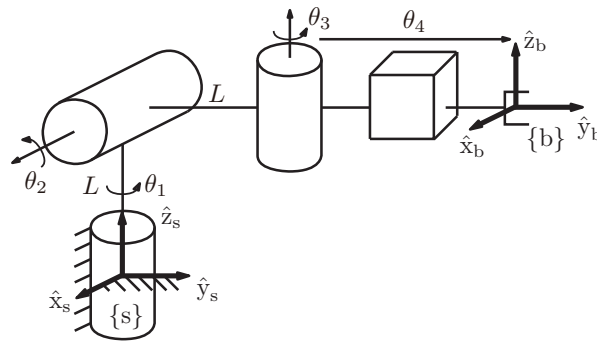

Figure 1: An RRRP spatial open-chain manipulator. The length of the first two links is  $L$ .
- (2/10) The RRRP robot of Figure 1 is shown in its zero position ( $\boldsymbol{\theta} = \mathbf{0}$ ). Using the fact that columns of the Jacobian is equivalent to the screw axis of the joints when the robot is in an arbitrary configuration, determine the space Jacobian  $\mathbf{J}_s(\boldsymbol{\theta})$  and the body Jacobian  $\mathbf{J}_b(\boldsymbol{\theta})$  when  $\theta_1 = \theta_2 = 0, \theta_3 = \pi/2, \theta_4 = L$ . Then, using your results, verify your functions `J_SpaceForm` and `J_BodyForm` written in Parts (a) and (b) when  $L = 0.5$  m.
3. (1/10) For the RRRP robot of Figure 1, let  $\mathbf{p}$  be the coordinates of the origin of  $\{b\}$  expressed in  $\{s\}$ . Using your results in Problem 1.(c), find  $\dot{\mathbf{p}}$  when  $\theta_1 = \theta_2 = 0, \theta_3 = \pi/2, \theta_4 = L$  and  $\dot{\theta}_1 = \dot{\theta}_2 = \dot{\theta}_3 = \dot{\theta}_4 = 1$ .